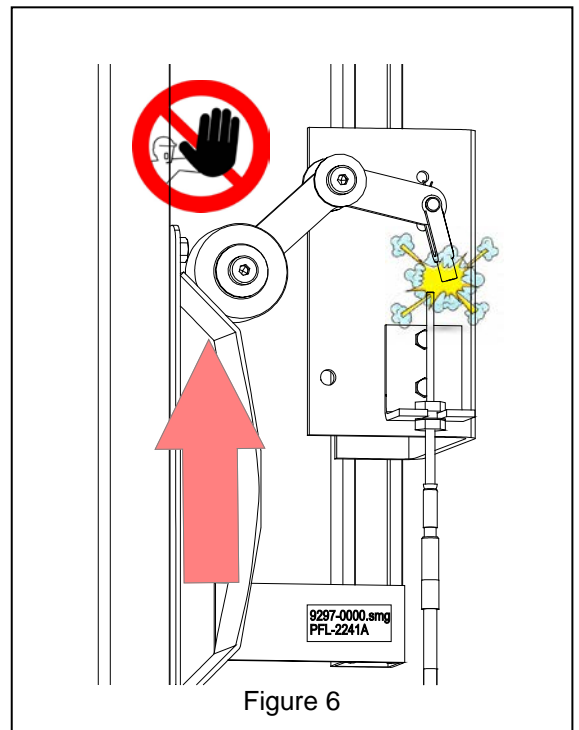

Figure 6
2. Edge of cam must not be past the center of the wheel toward the bracket. This could catch the wheel at the cam edge and break the cable clevis. **See Figure 6.**